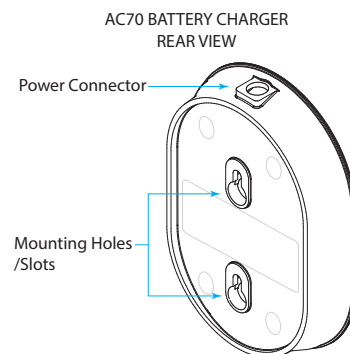

Fig. 2
3. Align the AC70 mounting holes with the two screws (Fig. 2).